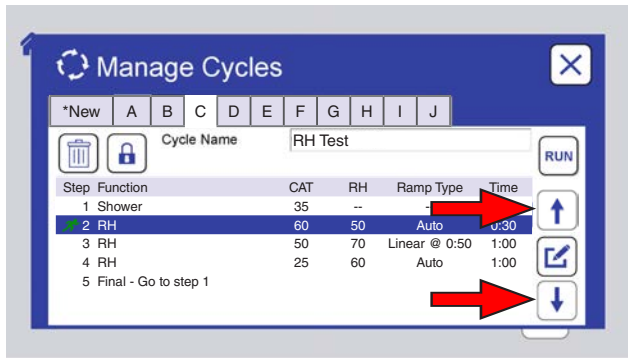
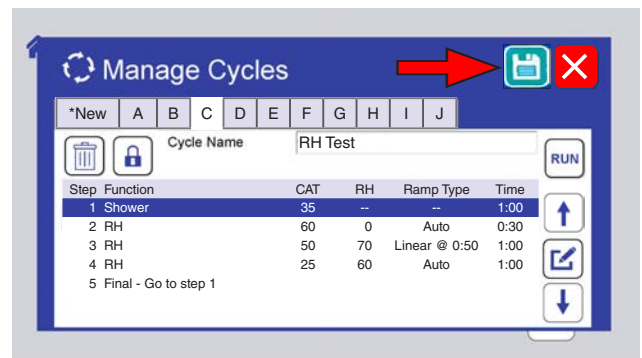

Figure 9.6.4a: For any cycle, a new step can be added before or after an existing step. Use the Up and Down Arrow icons to select the step.
Figure 9.6.6d: Touch the Save icon to save the edited cycle.
- o Add, edit, or delete steps in a cycle (Figure 9.6.4a through Figure 9.6.6d). **NOTE:** Pre-programmed test cycles cannot be edited (they can be deleted).